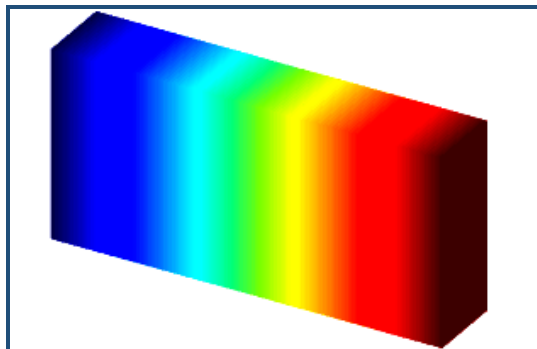

Figure 8.2: Temperature contour of composite wall
5. Analyze the results using the Ansys CFD post to get the contour as shown in Figure 8.2.